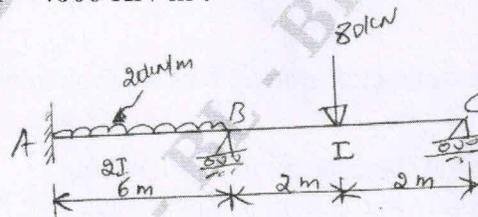

Fig. Q6
- 6 Analyse the continuous beam as shown in Fig. Q6 by force transformation method. Support B sinks by 10 mm. Take $EI = 4000 \text{ KN-m}^2$.